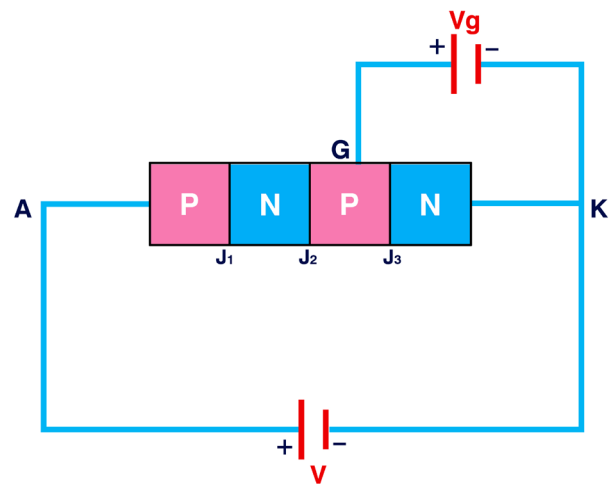

Fig. 6.8 SCR with gate voltage applied
(2) **When the gate is positive with respect to cathode:** The SCR can be made to conduct heavily at a smaller applied voltage by applying a small positive potential to the gate as shown in Fig. 6.8. Now the junction J_3 is forward